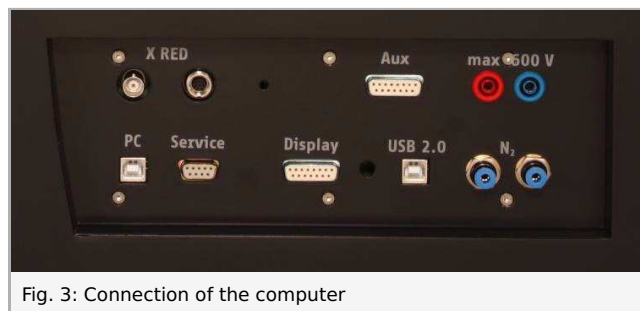

Fig. 3: Connection of the computer
- Connect the X-ray unit via USB cable to the USB port of your computer (the correct port of the X-ray unit is marked in Fig. 3).